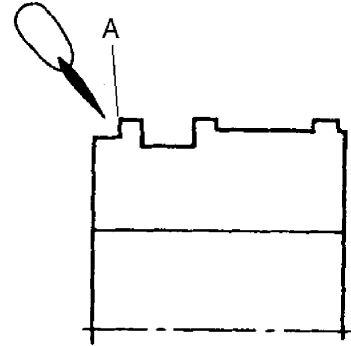

Figure 26
11. Apply grease or hydraulic oil to corner of piston at position A. See Figure 26.